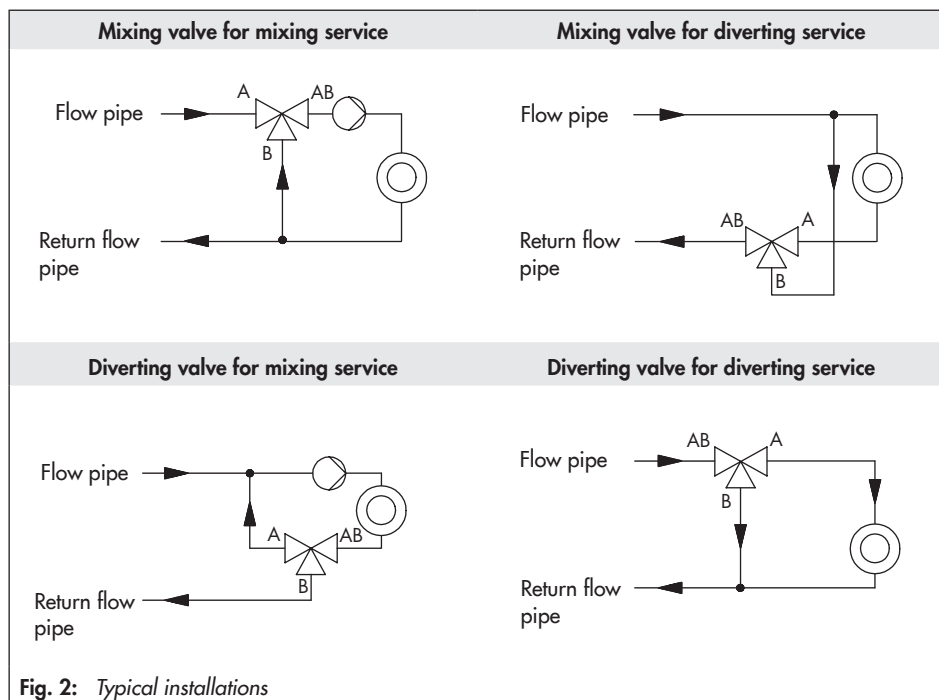

Fig. 2: Typical installations
- Make sure that the inlet and outlet flows of the plant are correctly assigned to ports **A**, **B** and **AB** (Fig. 2).